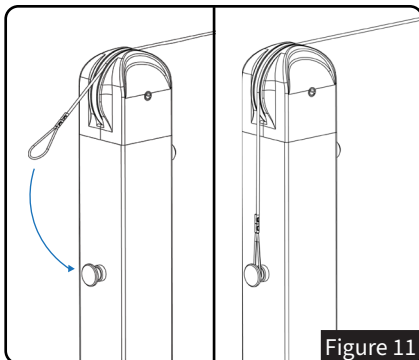
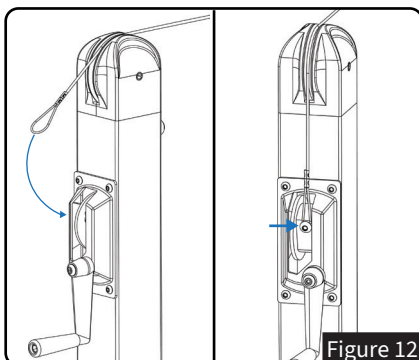

Figure 11
Figure 12
- Loop the cable around the net hook on the back of the post. See *Figure 11*.
- Place the other end of the top cord cable over the pulley on the Winder Post (D).
- Attach the cable to the screw on the crank and tighten the screw. See *Figure 12*.